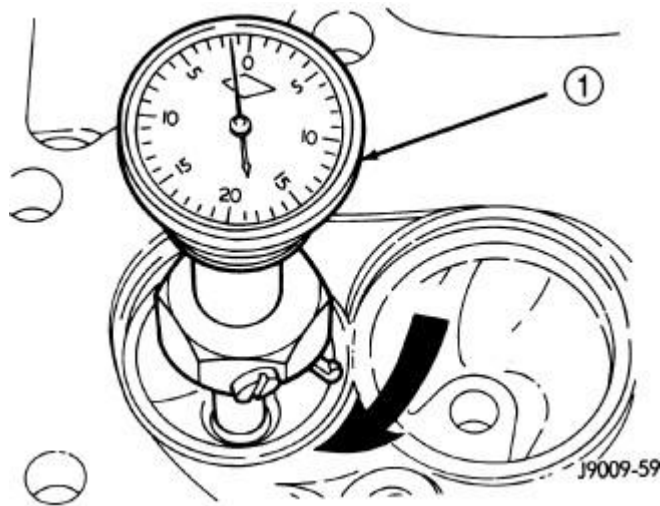

Fig. 90: Measurement Of Valve Seat Runout
2. Measure the concentricity of valve seat using dial indicator. Refer to **Fig. 90**. Total runout should not exceed 0.051 mm (0.002 in.) total indicator reading.